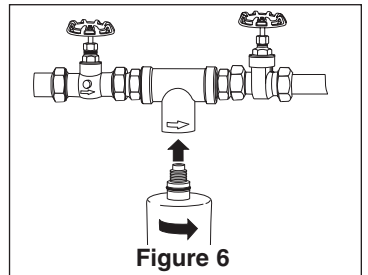

Figure 6
- Screw cartridge to the right (clockwise) into the AP430SS filter head. Turn on main water supply, open valves and check for leaks. (Figure 6)